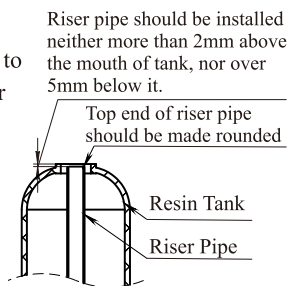

Figure 1
①The filter should be as much close to the drain outlet as possible; and better make sure to install the system at the place where no much loss would be caused in case of water leakage.
②As in Figure 1, riser pipe should be installed neither more than 2mm above the mouth of tank, nor over 5mm below it, with its top end being made rounded to avoid damaging the O-ring of riser pipe.